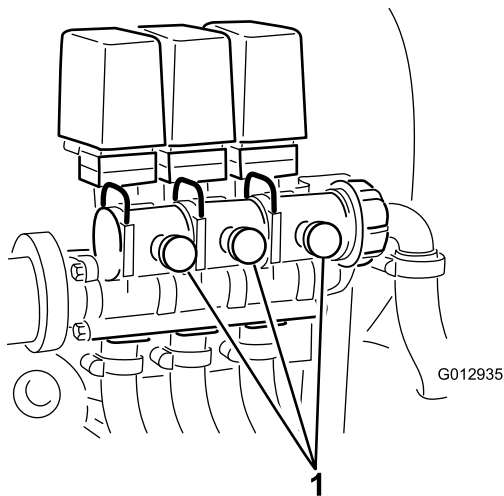

Figure 24
10. Adjust the boom bypass valve (Figure 24) on the backside of the boom control valve for the boom you turned off until the pressure reading on the gauge is the same as it was in step 7.